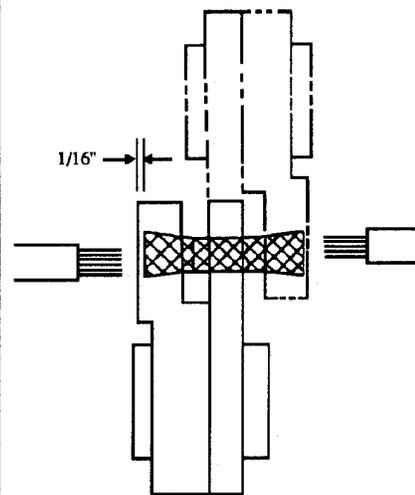

FIGURE 5
1. Insert parallel splice into crimping jaws 1/16 of an inch inside insulation crimping die. (See Figure 5)
- d) To crimp insulation support on other end, turn splice around and over and locate jaws as before. (See Figure 5) Do not attempt the second crimp until previous electrical crimp lines up with electrical dies. When properly seated, previous electrical crimp will be repeated, but part will not be further deformed. Squeeze handles and complete the second crimp.